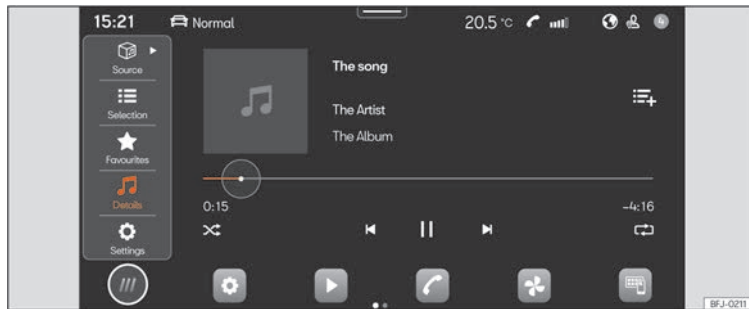

Fig. 138 Schematic diagram: Media view
- Press **HOME** > ► >>> **Fig. 138**.